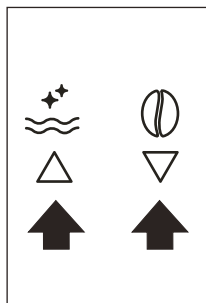
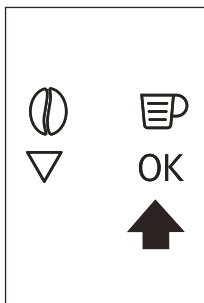

Fig. 9
Fig. 10
- To set the language, use the icons Δ ∇ (B7 and B8) to choose the required language (Fig.9). When the message "PRESS OK TO CHOOSE ENGLISH" is displayed, press the OK icon (B11) (Fig. 10) for 3 seconds until "ENGLISH INSTALLED" is displayed. If you set the wrong language, follow the instructions in the "Setting the language" section. If your language is not available, select one from those displayed. The instructions refer to the English version. Then follow the instructions displayed.
- Press the OK icon (B9) (Fig. 10) and after a few seconds a little water comes out of the spout.